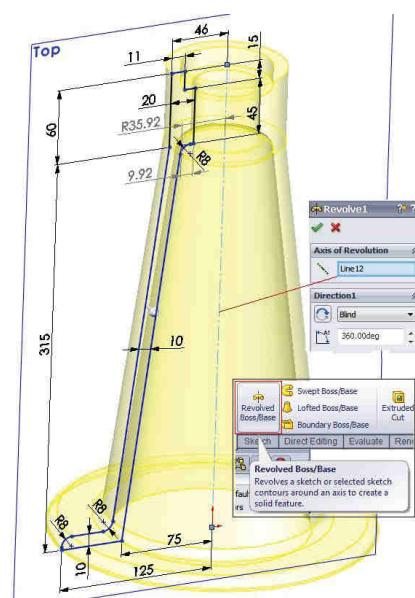

Fig. 1.4
- In caseta **Boss-Extrude** PropertyManager, sub zona **Direction 1** se va completa, fig. 1.4: